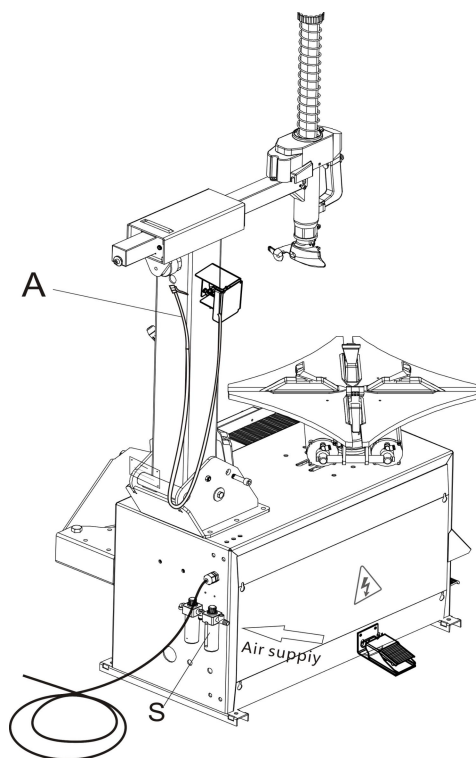

Fig. 12
- Air connection: Connect the inflation gun A to Barometer (Fig.12) .
- Connect the compressed air supply to the coupling located between the lubricator and the air filter S(as fig.12, direction of arrow) .